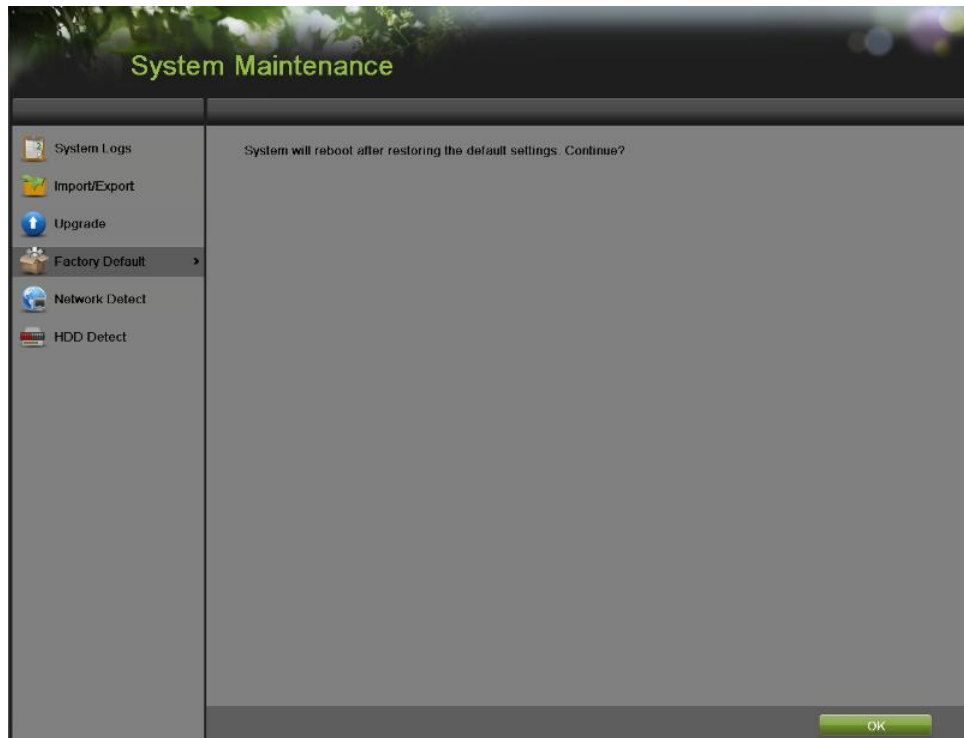

Figure 142 Factory Default Menu
1. Enter the Factory Default menu, shown in Figure 142 by going to Menu > Maintenance > Factory Default.